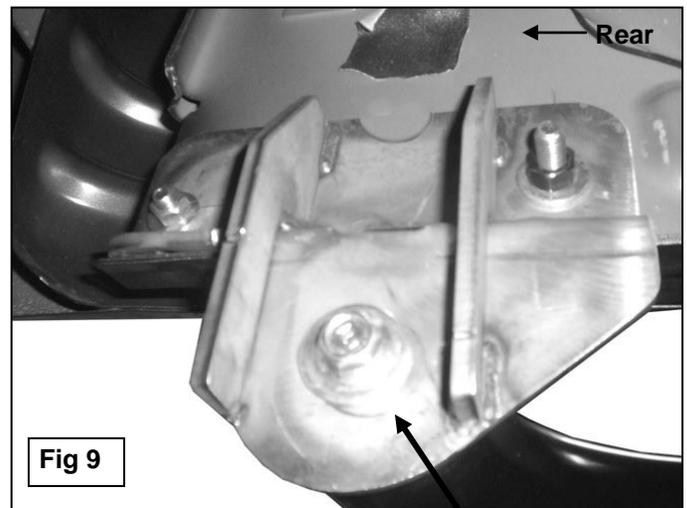

Fig 9
9. Attach the Sidebar to the Mounting Brackets using the included (2) 1/2" x 2" Hex Bolts, (2) 1/2" Flat Washers, and (2) 1/2" Lock Washers, **(Figure 9)**. Do not tighten hardware at this time.